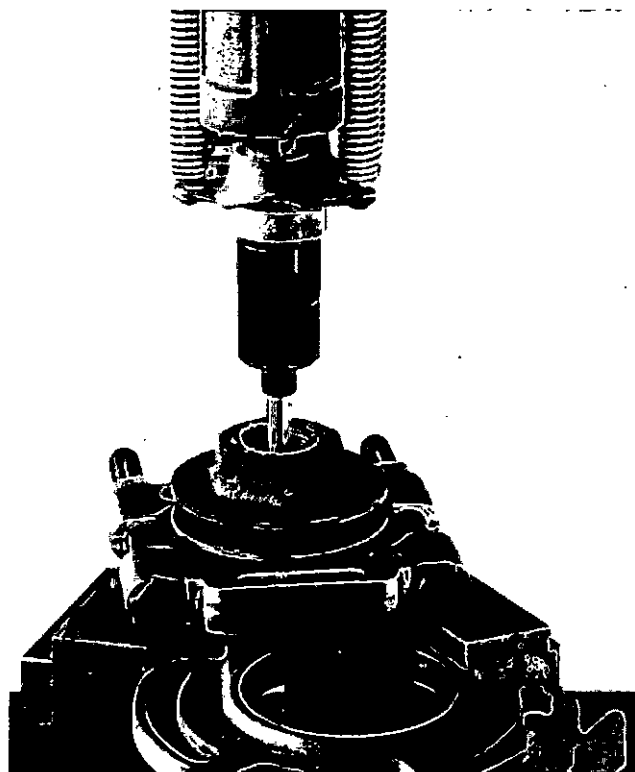

Fig. 8-19 (N10862). Remove The Shaft And Bracket Assembly From The Pulley.
12. Use the 3375326 to support the idler pulley. Push the shaft and bracket assembly (8, Fig. 8-15) from the pulley, Fig. 8-19.